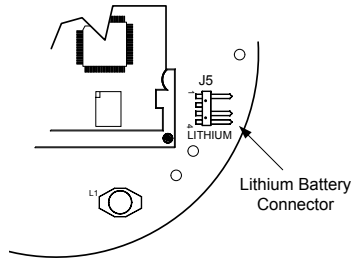

Fig. 12: Lithium battery connection on main electronic board
1. To connect the battery, locate battery connector behind and to the lower right side of the display (Fig. 12).